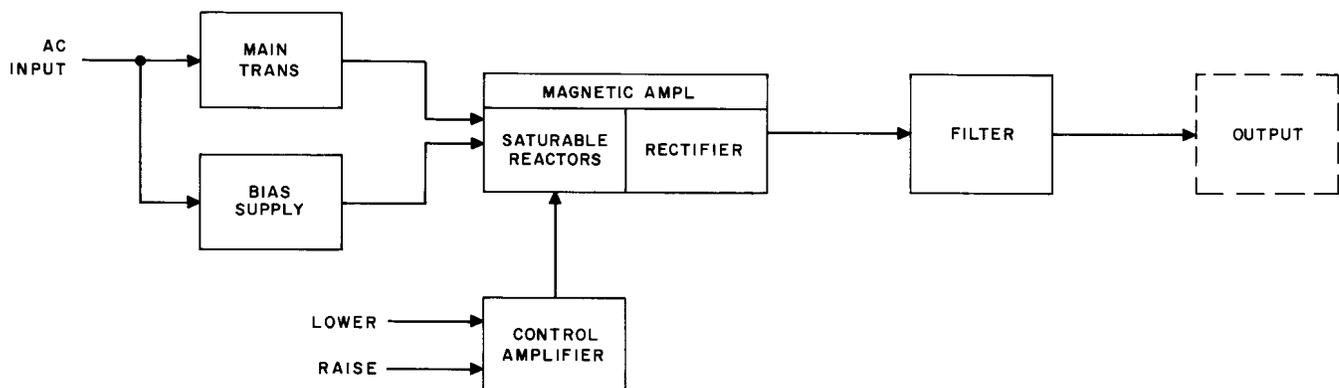

Fig. 1—J68295A Rectifier-Block Diagram
5.01 In general, the only item likely to become defective with use is the V1 electron tube which is subject to aging. The functional units of the rectifier are shown in Fig. 1.